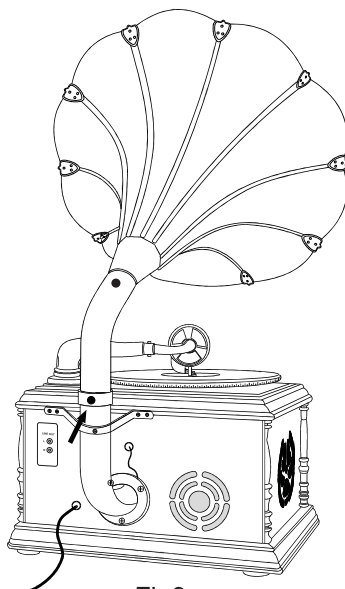

Fig9
- 9.) Look at Fig9. Nest the assembled big horn speaker (A) into the tubing of the PTCDCS3UIP host cabinet in the correct position. Rotate one screw B(F) clockwise into the hole. Tighten clockwise with a Philip's head screwdriver. It should be able to be turned freely by rotating the big horn speaker lightly.